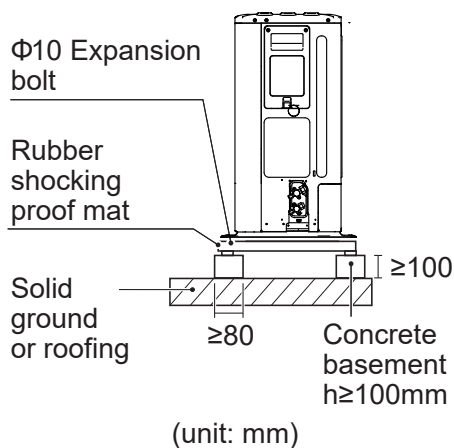

Fig: 6-3
- If water does not easily drain from the unit, mount the unit on a foundation of concrete blocks, etc. (the height of the foundation should be about 100 mm .(in Fig:6-3)